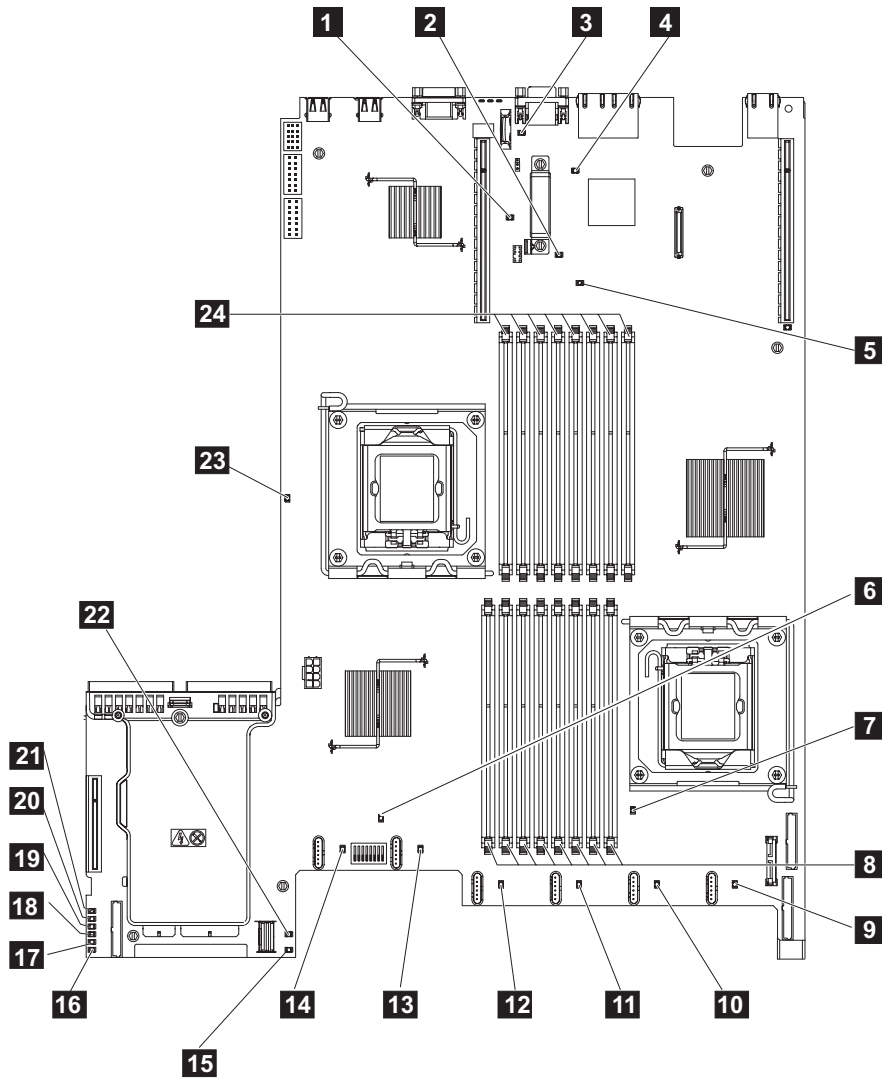

Figure 94. SAN Volume Controller 2145-CF8 system board LEDs diagnostics panel
- YES** See Table 60 on page 289 and perform the action specified for the specific light path diagnostics LEDs. Then go to step 3 on page 292. Some actions will require that you observe the state of LEDs on the system board. Figure 94 on page 288 shows the location of the system board LEDs. The fan LEDs are located adjacent to each FAN. To view the LEDs you need to perform the following actions: